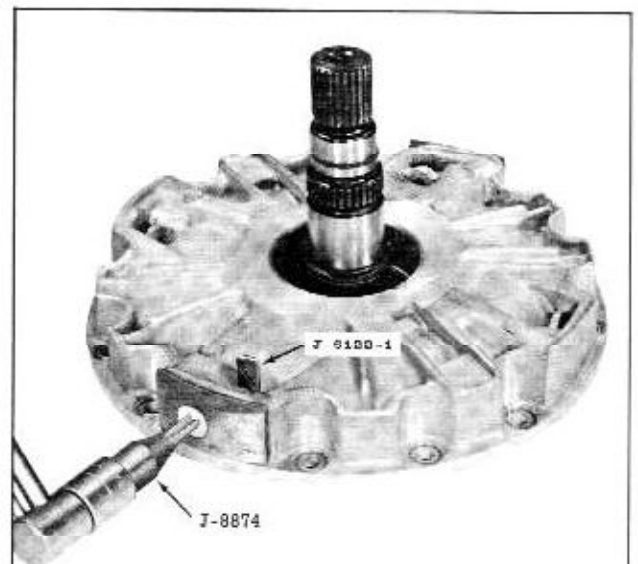

Fig. 3-76 Installing Exhaust Valve Cover
2. Install Exhaust Valve Retaining Tool J-6122-1. (Fig. 3-76)
3. Install torus cover exhaust valve gasket and cover. Torque the retaining screw 20 to 25 ft. lbs. using Tool J-8874. (Fig. 3-76)